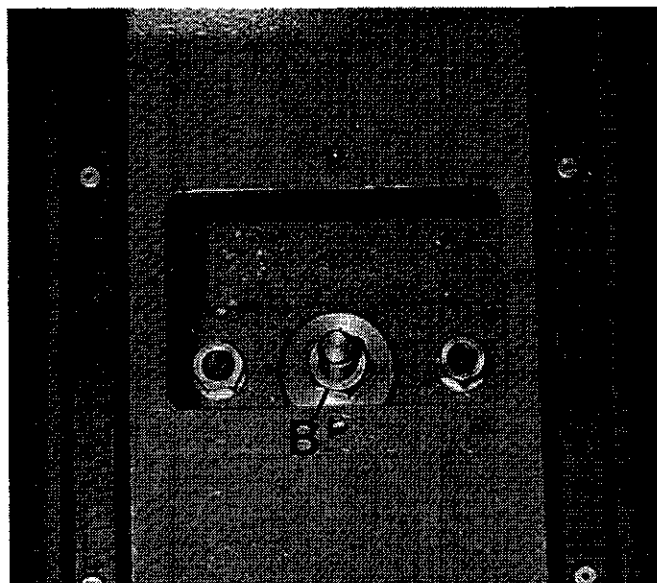
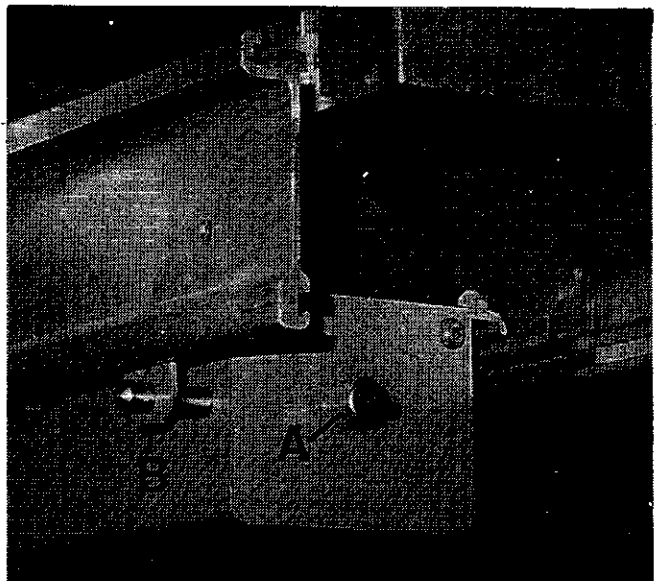

FIG. 10.
FIG. 18.
2. Release sliding table lock (See FIG.18) and move sliding table to give access to beam mounting cover plate. Remove cover plate (Plate shown removed in FIG.10).
4. Use box spanner supplied to tighten M16 nut and washer "B", FIG.10, then replace cover plate.
When the machine is used for ripping operations the sliding table can be locked by locating the locking bar "A" in the bracket "B" as shown in FIG.18.